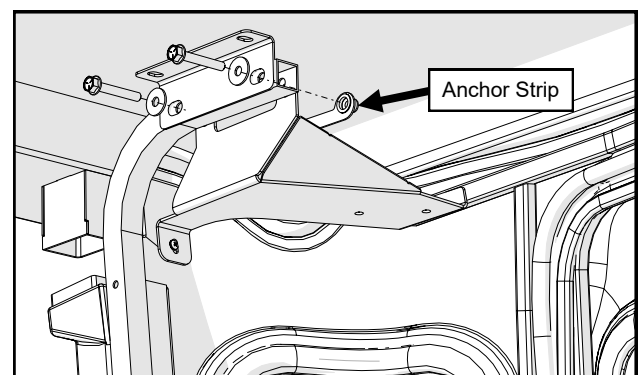

Fig. 3.5 (upper rear mount - left side)
**3.5** Per figure 3.5, install hardware and anchor strip into upper right mount. Leave bolts loose.